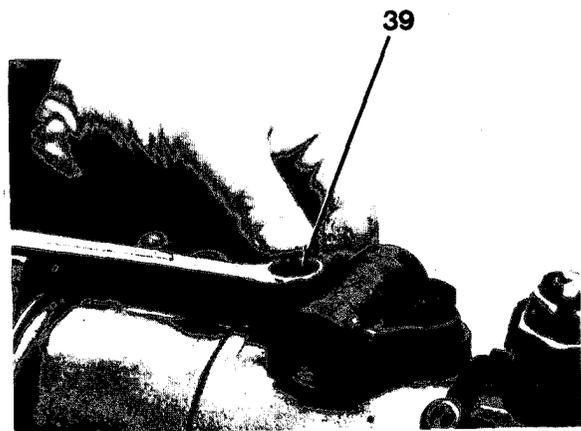

Figure 7-24
13. Remove cap nut and sealing washer (39, Figure 7-24).